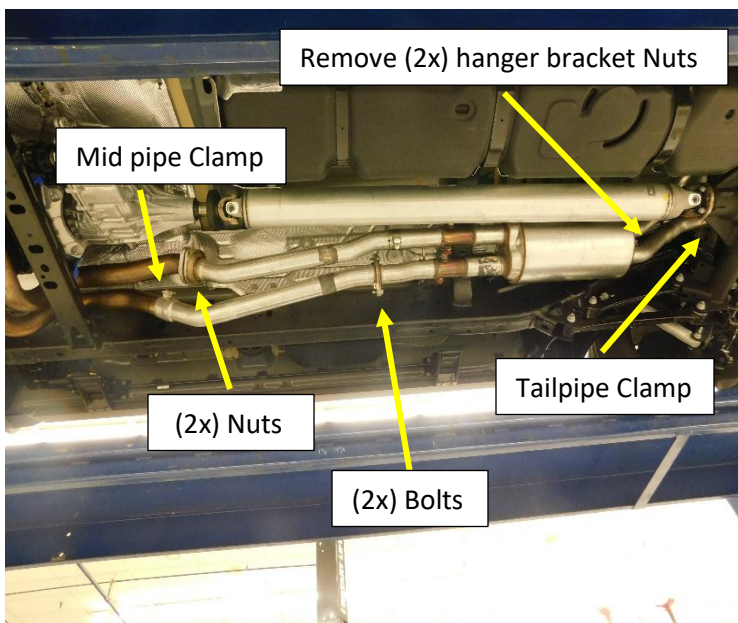

Figure.3 (H.O Shown)
- H.O** - Remove the (2x) bolts and (2x) nuts at the Muffler inlet pipe flanges. **Fig. 3**
- Loosen the Clamp on the right tail pipe connection just before the axel and spray the slip connection with penetrating oil. **Fig.3**
- Remove the mid pipe from the down pipe assembly. **Fig.3**